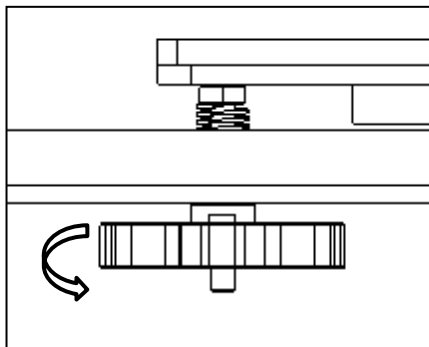

Fig 1
Step 2. Tighten the hand nuts under the bed to move down the bed to the lowest position (**Fig 1**).